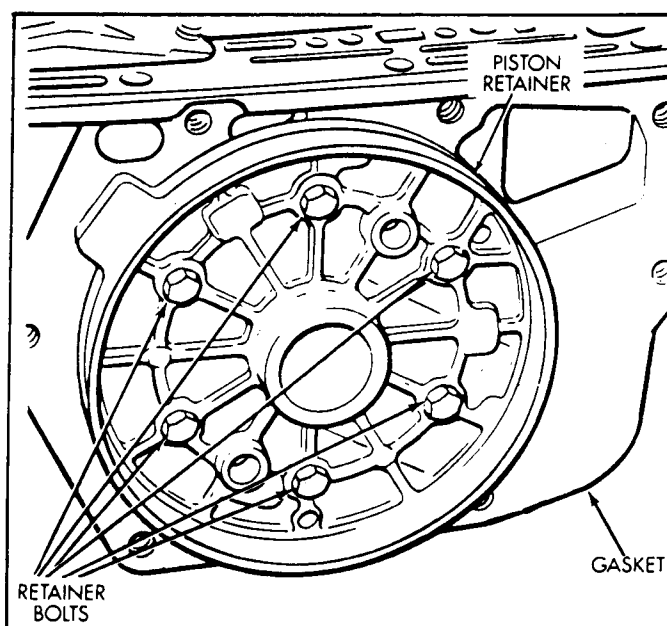

Figure 130
9. Install the overdrive retainer through case and align bolt holes in retainer, gasket, and case (See Figure 130).
10. Install the six O/D retainer bolts in case, as shown in Figure 130.